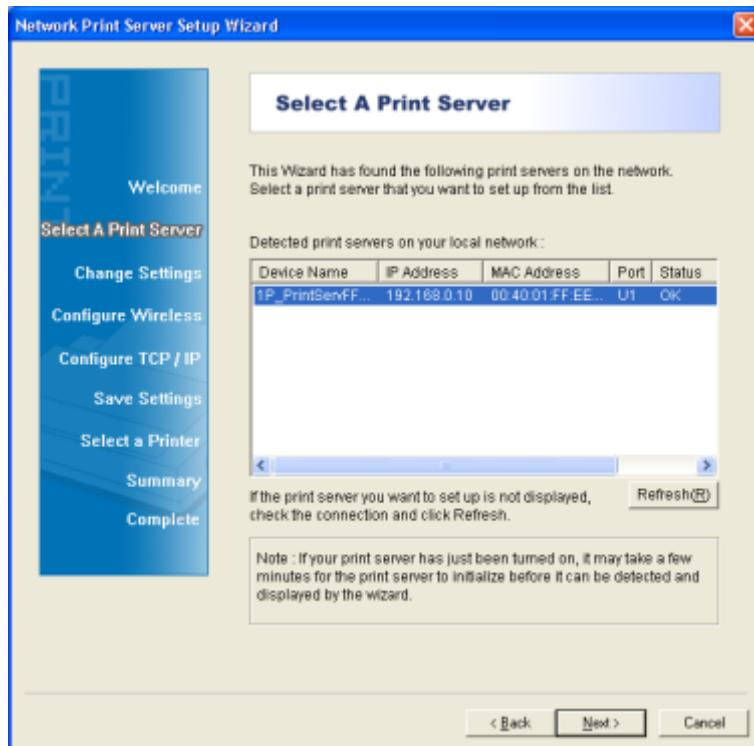

Figure 3-4
4. From the “**Select A Print Server**” screen as shown in Figure 3-4, select the print server that you want to configure and click **Next**.